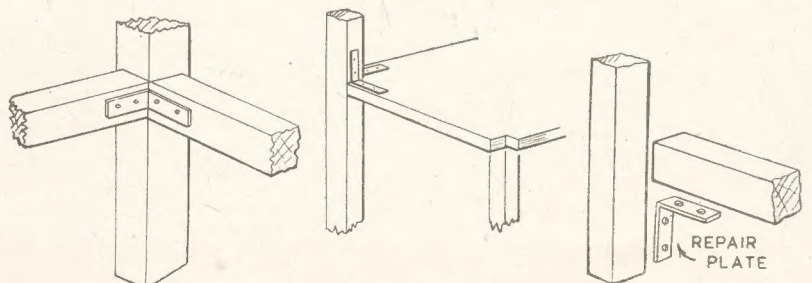

Fig. 5—Three examples of the use of metal angle plates
Illustrations are given at Fig. 5 of the method in which they can be used. The angle plate (A) should be stood in its corner, and a pencil mark made where the screw holes will need to be bored.